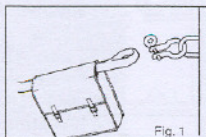

Fig. 1
- take the short part out of the bag and fix it to the anchoring point either with a shackle or with a snap hook, or a strap ring, or a sling attachment (Fig. 1)